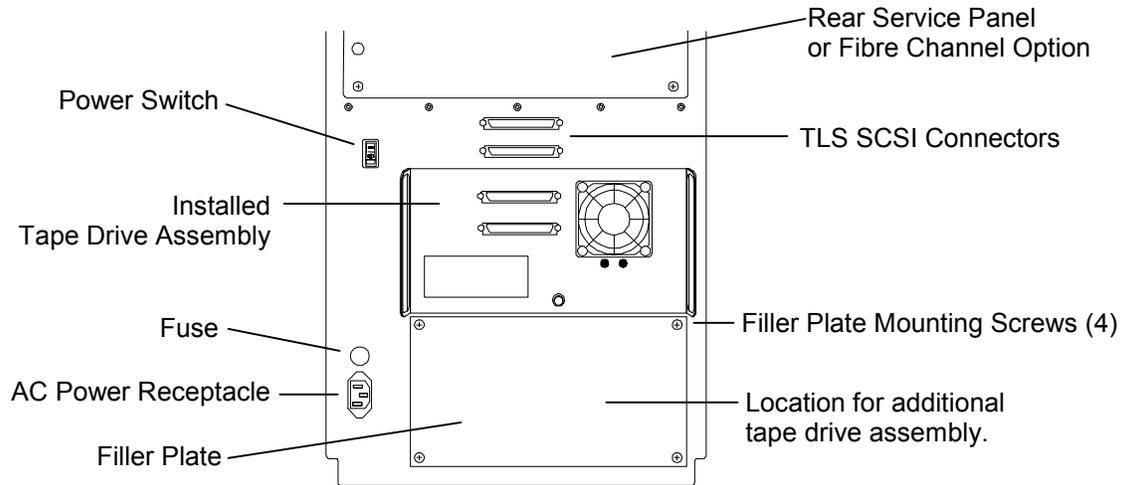

**Figure 5-15 TLS Rear View – Model 6430 Shown**
2. For models 54xx, 58xxx, 64xx, 68xxx, 84xx and 88xxx the access cover(s) must be removed to enter the Drive Bay area. Use a flat blade screwdriver to loosen all four of the quarter-turn fasteners and carefully remove the access cover(s) (Figure 5-15).
After the SCSI connections have been completed on models 54xx, 58xxx, 64xx, 68xxx, 84xx or 88xxx the access cover(s) must be replaced. Align the covers four quarter-turn fasteners with the corresponding receptacles on the rear panel of the TLS, then using a flat blade screwdriver tighten the fasteners to secure the cover (Figure 5-15).